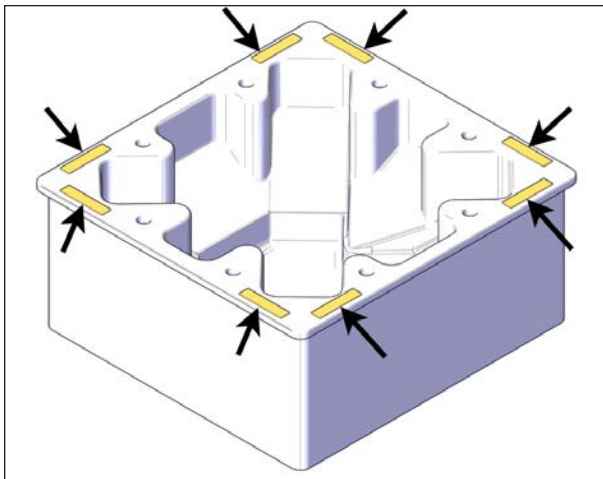

FIGURE 15: FOAM SPACER INSTALLATION
1. Install foam spacers on the top of the spa near each corner. Use the masking tape provided in the seal bag to keep the spacers in place. Install at least 3 foam spacers on each longest side. Do not stack foam spacers, see Figure 15.